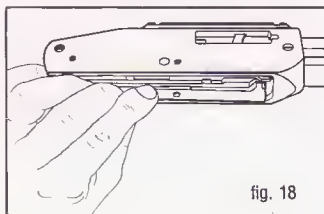

fig. 18
- Insert the shell latch protrusion into the slot and pull the forend back. (fig. 18)